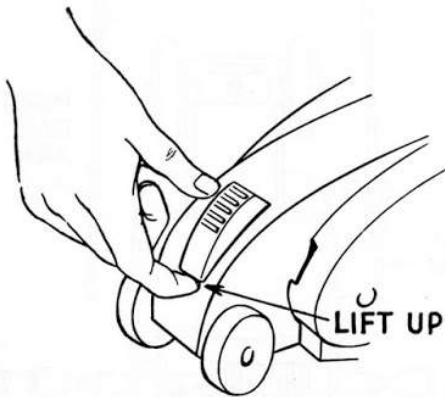

Fig. 6—Removing Switch Pedal
- a. Pry up red switch pedal at lower end near rear wheels. See Fig. 6.